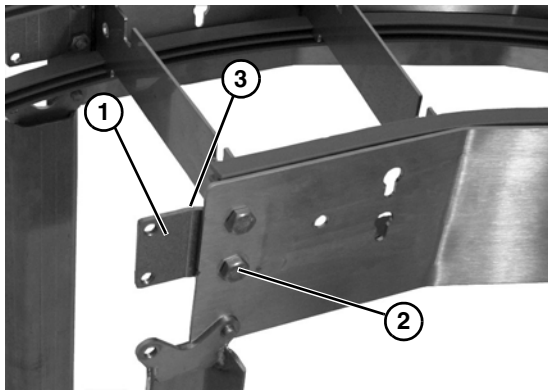

Figure 13
1. For joining curved to straight sections, install offset connecting plates onto curved section (Figure 13, item 1) with four hex head bolts (Figure 13, item 2) with heads of bolts outside of curved section.
2. Ensure that the offset of connecting plates is to the inside of curved section (Figure 13, item 3).